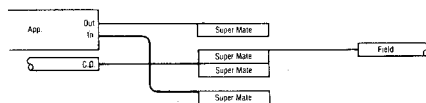

Fig. 31—Remove load coil Super Mate Modules from group.
2. Using a 4053PM Separator Tool remove load coil Super Mate Modules (in and out) from the group. See Figure 31.